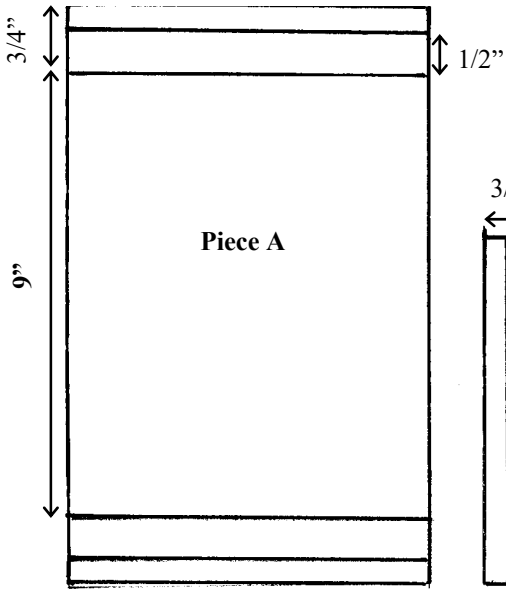
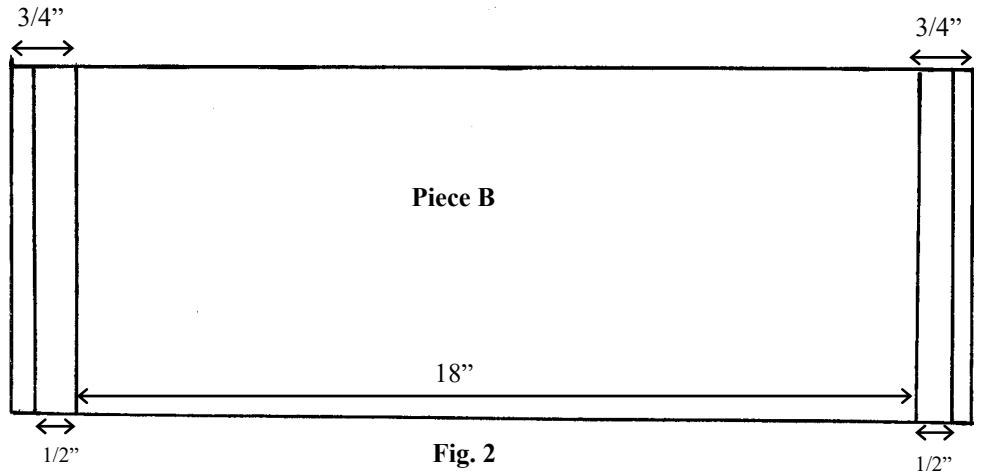

Fig 1.
Fig. 2
1. Cut 8 pieces of ripstop measuring 8 inches by 9 inches, piece "A" (Fig 1) and allow $\frac{1}{4}$ inch for hemming on the 9 inch sides and $\frac{3}{4}$ of an inch on the 8 inch sides. Then cut 5 pieces measuring 8 inches by 18 inches, piece B (fig 2) and as above allow $\frac{1}{4}$ of an inch for hemming on the 18 inch sides and $\frac{3}{4}$ of an inch on the 8 inch side. The $\frac{3}{4}$ allowance also incorporates a $\frac{1}{4}$ inch sewing point, this will be to make a $\frac{1}{2}$ inch pocket for the longerons.